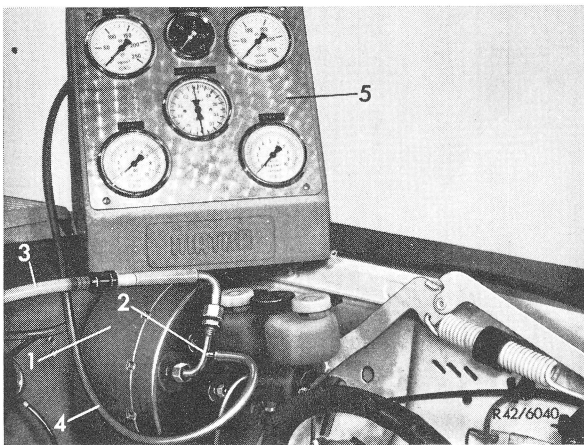

Fig. 1
1 Loosen vacuum line (3) on brake unit (1) and connect measuring connection (2) between the line and the brake unit (Fig. 1).